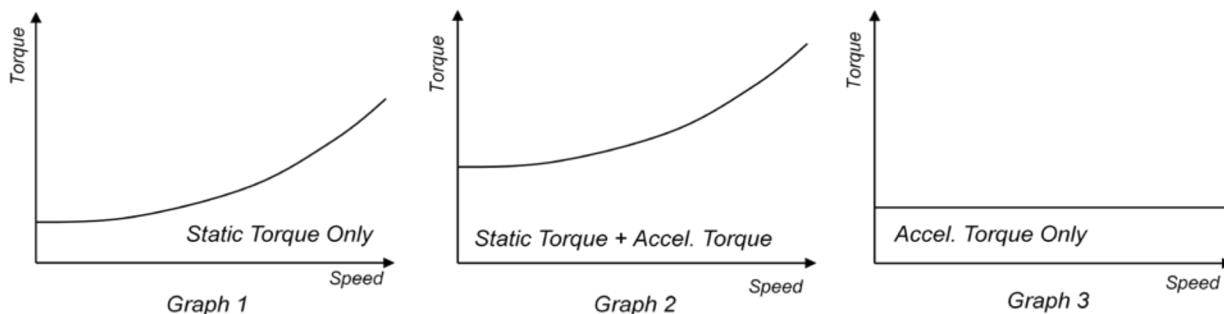

Figure 11-17. Average Motor Torque Readings
3. Spin the motor up to a low speed and allow it to settle (so that inertia torque equals zero). Then take a reading of the average motor torque (Figure 11-17).